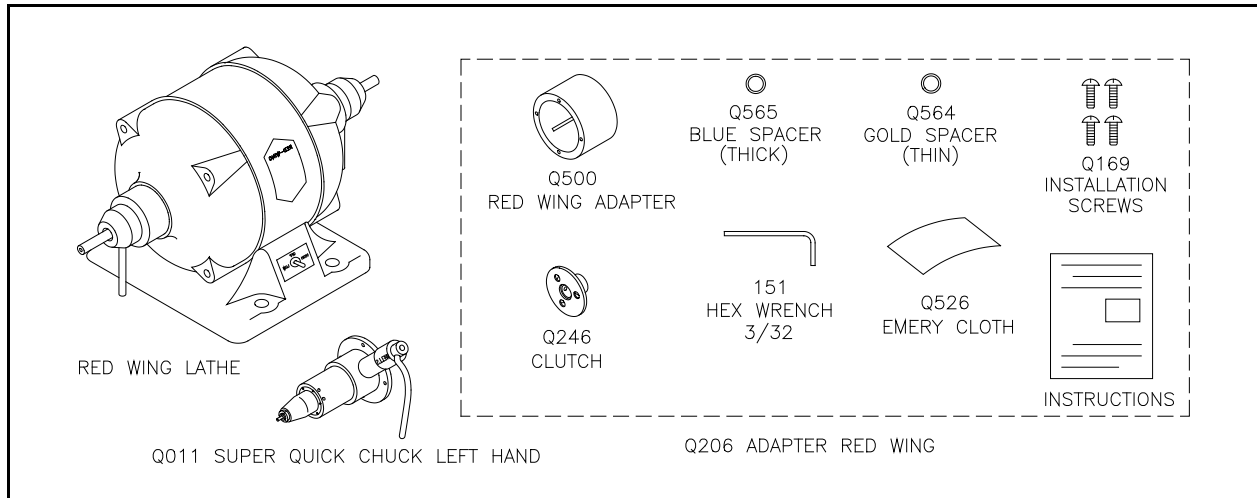

Figure 1. Materials
- 1.2 A Q011 SUPER QUICK CHUCK LEFT HAND and a Q206 ADAPTER RED WING are required. See Figure 1.